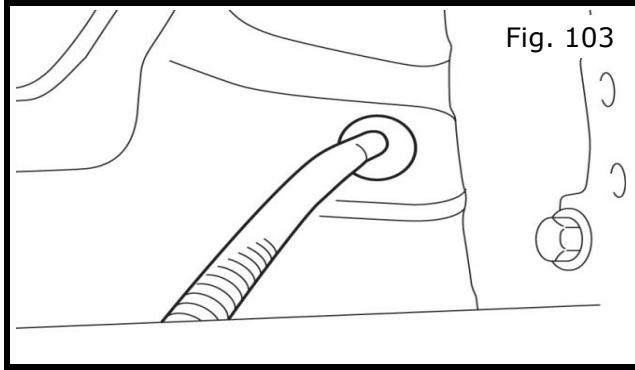

Fig. 103
- a) Route the 4-pin exterior harness connector from the underside of the vehicle, and install grommet into hole as shown in Fig. 103.